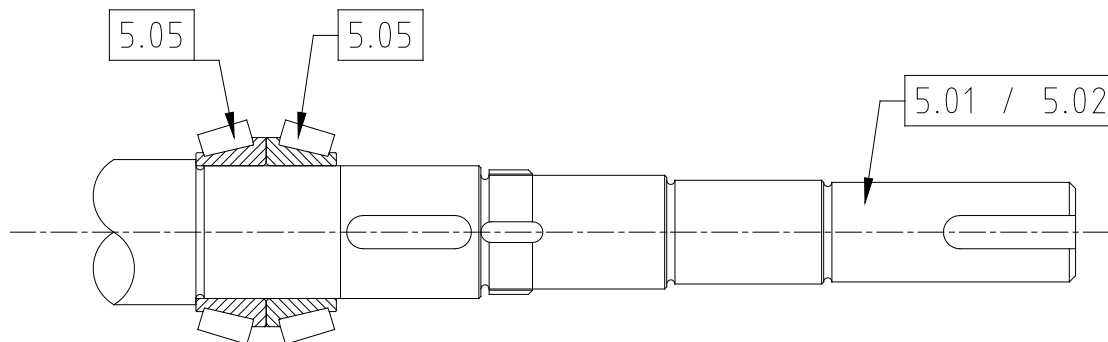

Fig 24 Installation of bearing cones onto shafts
- Install bearing cones (5.05) to shafts (5.01 and 5.02) ensuring they locate against shaft shoulder. The cones are installed as shown in Fig 24.